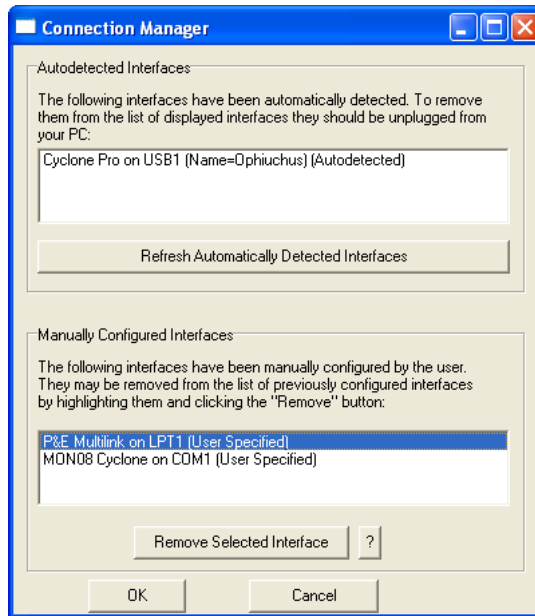

Figure 7-13: Remove A Manually Configured Multilink/Cyclone Pro Interface
6. To remove a manually configured interface, please click on the “Remove Connection” button and choose the interface to be deleted. See **Figure 7-13**.